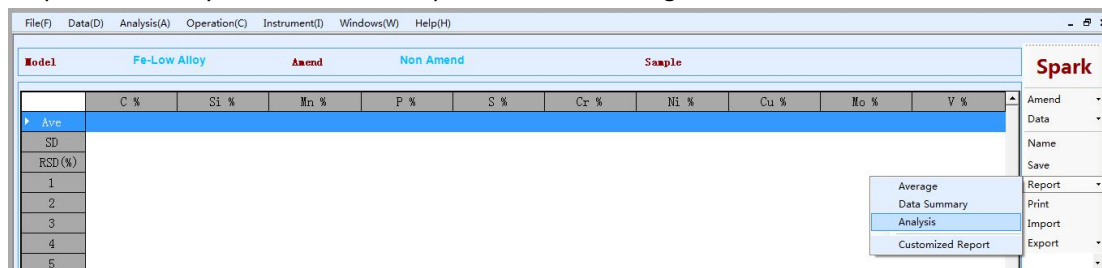

Figure 5-2 Report data
Step 1 Click “Analyze Data” under “Report”, as shown in Figure 5-2: